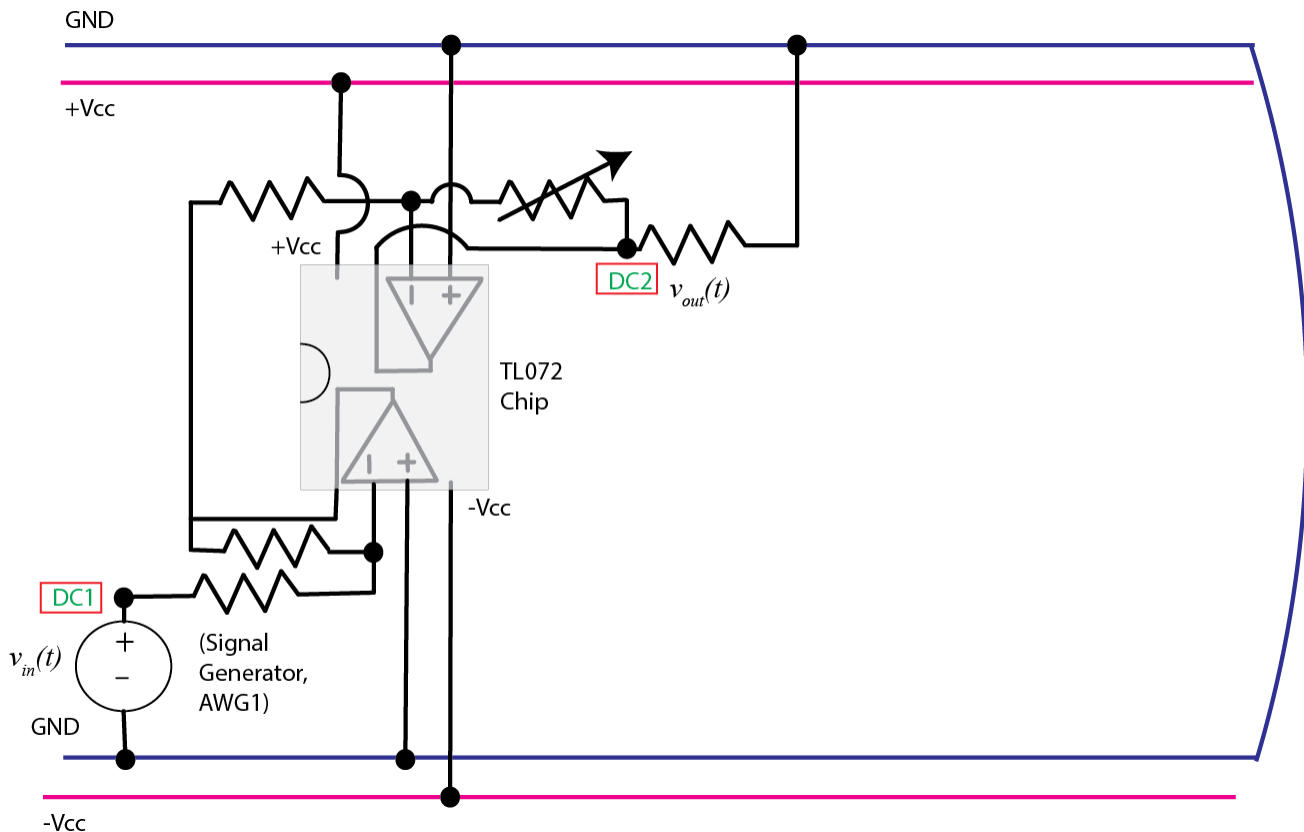

Figure 2. Prefilter (gain) circuit.
3) Build the prefilter, shown in Figure 2. We have included a load resistor for measuring the output. The input to this circuit should be the signal generator, and the output should be the voltage across the load resistor. Set the input to a 50 Hz square wave with a peak to peak value of 2.0 volts and 1.0 volt offset. Start the oscilloscope and connect channels DC1 and DC2 as shown in Figure 2. Set the voltage scale to 2 volts/div and the time scale to 10 ms/div. Turn the power to the circuit on. (If you get a small negative voltage connect the load resistor to the other active pin on the variable resistor.) As the variable resistor is changed, you should be able to get an amplitude from 0 to approximately 6 volts. Before you go on, set the scope channels both to 1 volt/div and adjust the variable resistor so the output is that same as the input. Once this is working, disconnect the load resistor and function generator and disconnect the power to the circuit.
6) Build the proportional controller (a simple gain amplifier). Follow the same steps as in the prefilter (Step 1, Figure 2). Test this in the same way as you tested the prefilter. Before you go on, set the variable resistor so the output is the same as the input.